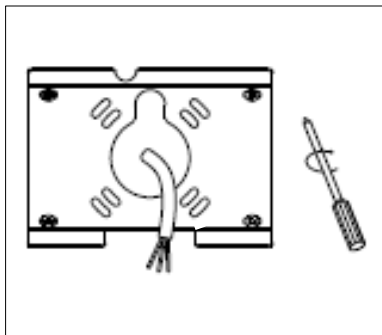

Figure 10
4. Position the mounting plate over the mounting holes, and attach the mounting plate to the wall. (see Figure 10).